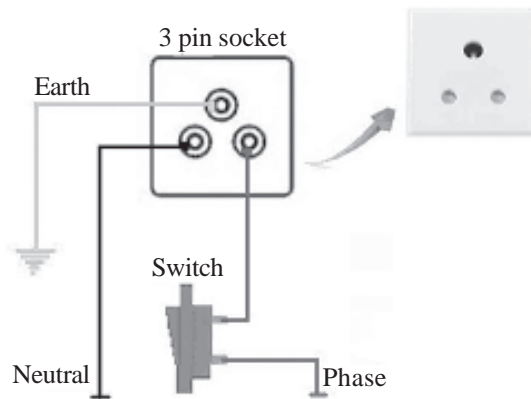

Figure 6.1 : 3 pin socket switch connection for a water purifier if electrical power outlet is near WPU
3. Make wiring connections of the board and connect it to the wiring out let (Fig 6.1)